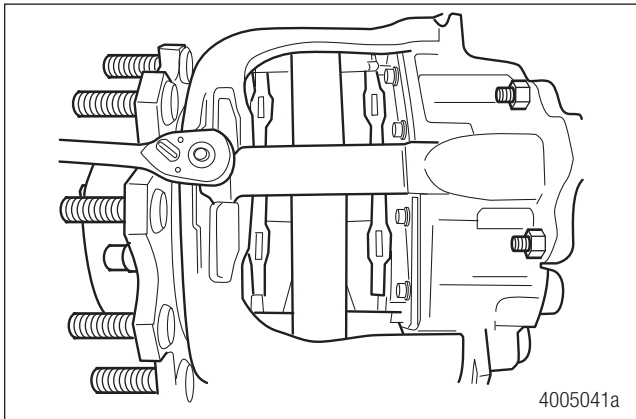

Figure 4.11
1. Use a 17 mm wrench to remove the pad retainer bolt. Remove the pad retainer. Figure 4.11.